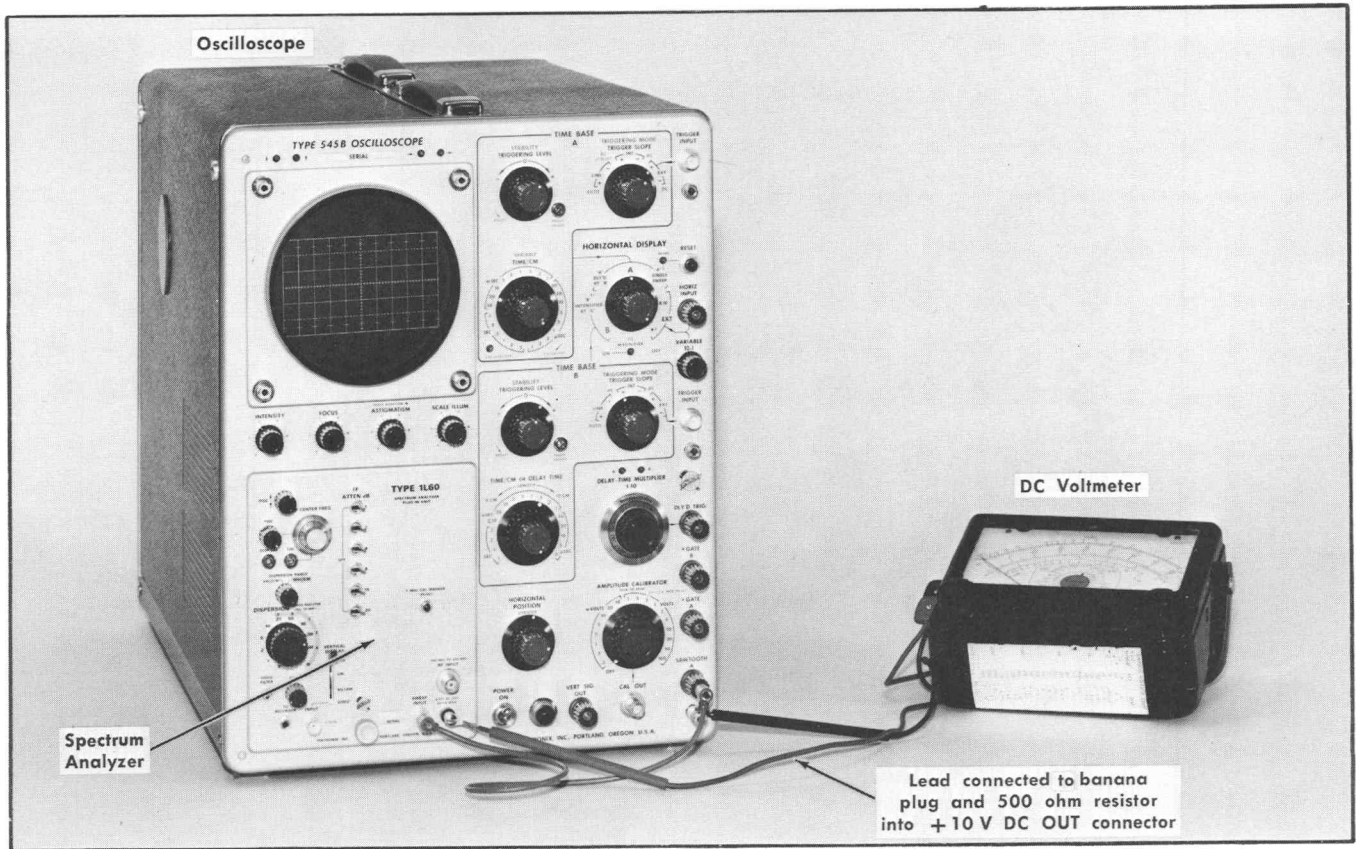

Fig. 6-26. Setup for checking +10 V DC OUT Voltage (Step 19).
- a. Set up the equipment as shown in Fig. 6-26.